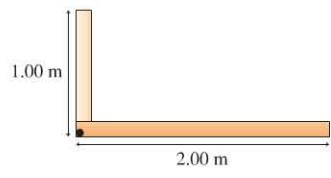

FIGURE P7.24
24. Figure P7.24 shows two thin beams joined at right angles. The vertical beam is 15.0 kg and 1.00 m long and the horizontal beam is 25.0 kg and 2.00 m long.